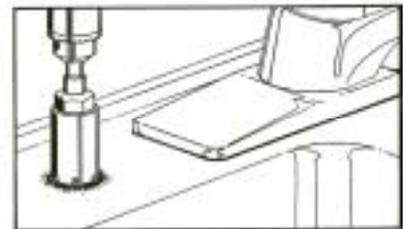

Figure 6
1. **CAUTION:** A heavy duty, variable speed drill motor with a spring-loaded porcelain drill set (Figure 6) is strongly recommended for this procedure.
CAUTION: The plastic sleeve supplied on pilot drill (Figure 6.A) is to be positioned on drill bit against drill chuck. This prevents chuck from contacting porcelain after pilot hole has been completed.
Using carbide tipped bit with plastic sleeve (Figure 6.A.), drill pilot hole completely through porcelain and metal underneath.
Place spring-loaded porcelain saw (Figure 6.B.) into drill chuck. Make sure pilot guide is inserted tightly. Insert pilot guide into pilot hole. Push down gently on drill motor to apply light pressure to porcelain surface. Start drill motor turning as slowly as possible.
3. Place finish hole saw (Figure 6.C.) into drill chuck. Make sure pilot guide is inserted tightly. Insert pilot guide into pilot hole. Begin cut using a slow speed and light pressure until porcelain (inside ring cut in Step 2) has been penetrated to material underneath.